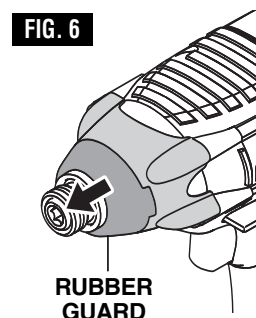

FIG. 6
1. Remove rubber guard by pulling forward (Fig. 6).